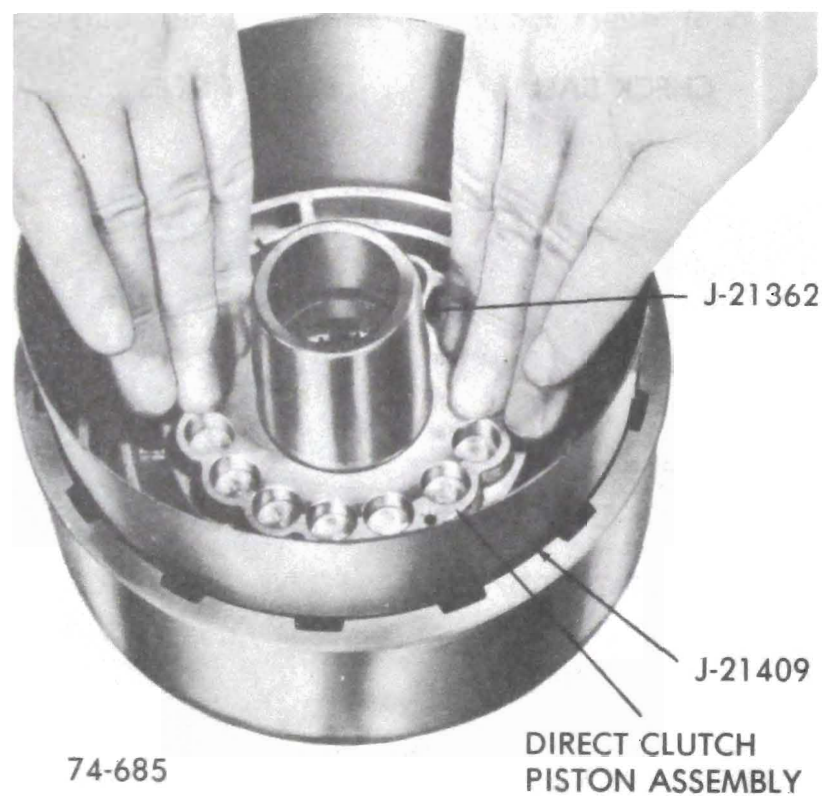

Figure 76-209
4. Place Seal Protectors, Tools J-21362 - Inner, J-21409 - Outer, over hub and clutch housing and install clutch piston. See Figure 76-209.